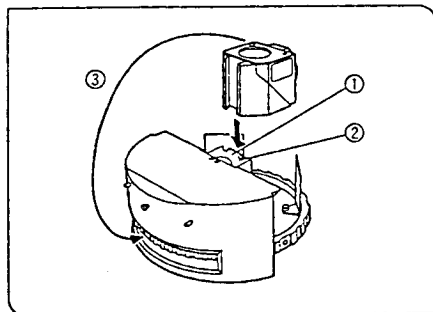

Fig. 3
(Figs. 3, 4)
2. Hold the cube to be mounted with its index side facing upward and slide it all the way onto the dovetail mount. Next, be sure to tighten the cube clamping screw **②** immediately. (Tighten all four cube clamping screws.)
3. Remove the cube's magnetic index sticker **③**\* and affix it to the corresponding turret position. (Fig. 3)